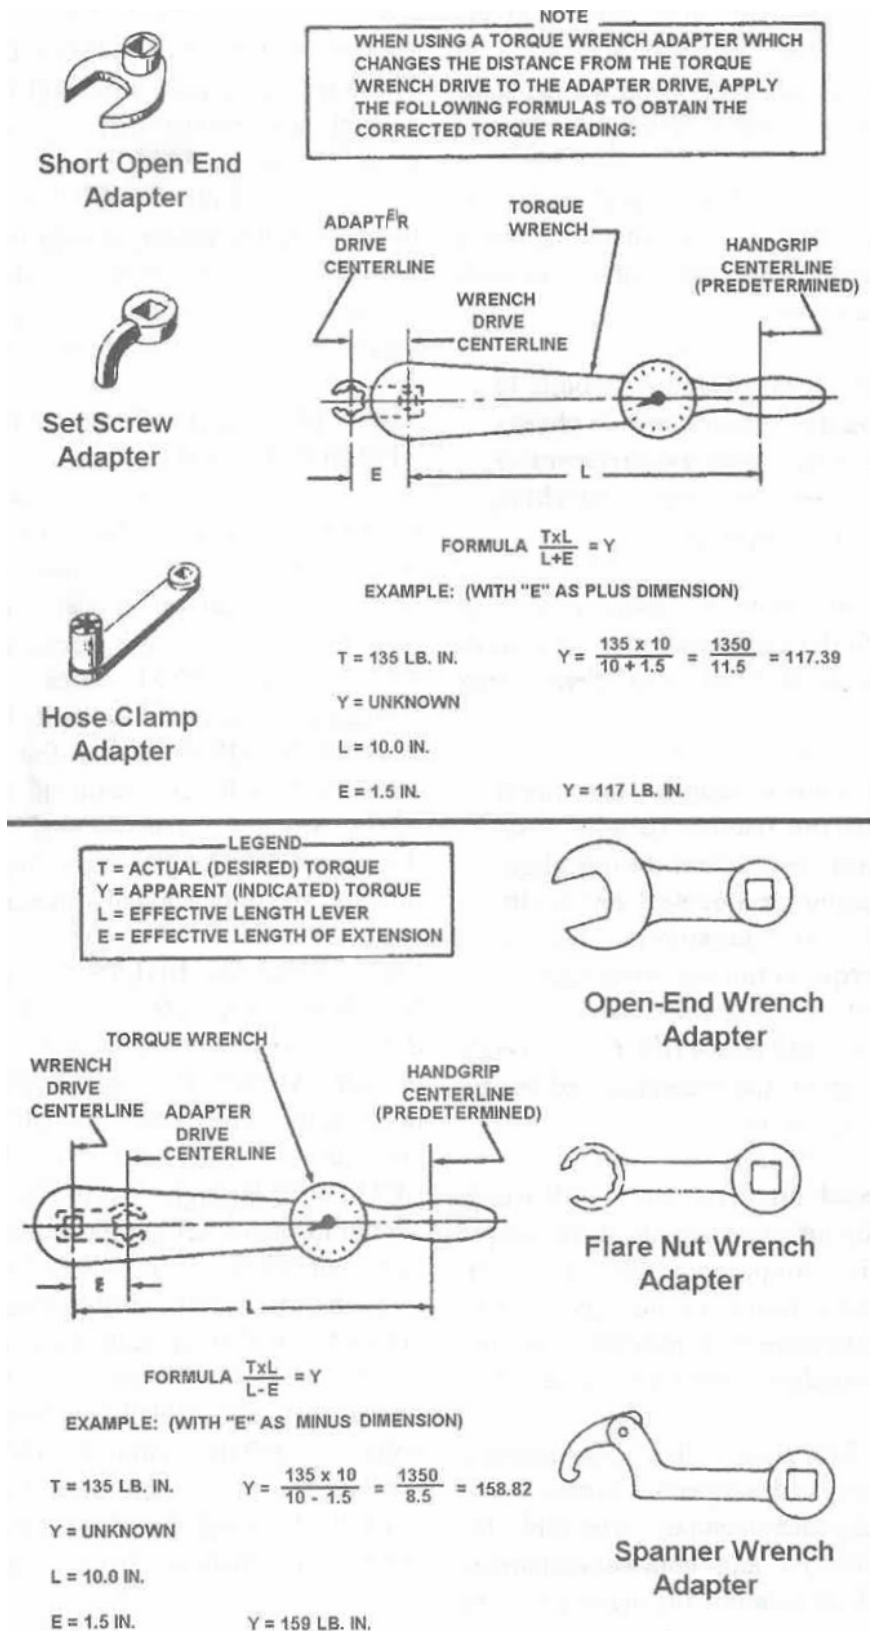

Figure 20-01 Torque Wrenches
- (1) Be sure the bolt and nut and the surface they bear on are clean and dry, unless otherwise specified by the manufacturer.
- (2) Run the nut down to near contact with the washer or bearing surface and check the friction drag torque required to turn the nut. Add the friction drag torque to the desired torque to arrive at the "final torque" to be registered on the torque wrench indicator.
- (3) Whenever possible, apply the torque to the nut instead of the bolt. This will reduce rotation of the bolt in the hole and reduce wear.
- (4) Apply a smooth even pull when applying torque pressure.
- (5) If special adapters are used which will change the effective length of the torque wrench, the final torque indication or wrench setting must be adjusted accordingly. To determine the torque wrench setting or indication with adapter installed reference Figure 20-01.